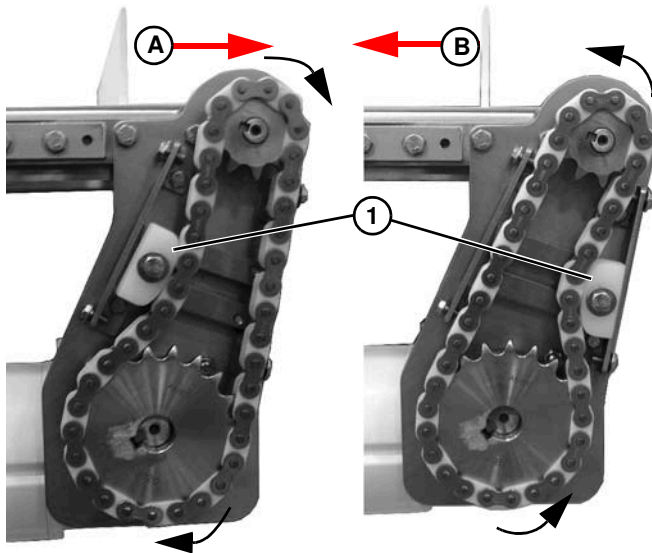

Figure 34
- Depending on conveyor belt travel (direction A or B of **Figure 34**), locate timing chain tensioner (**Figure 34, item 1**) as shown. Do not tighten tensioner screw.